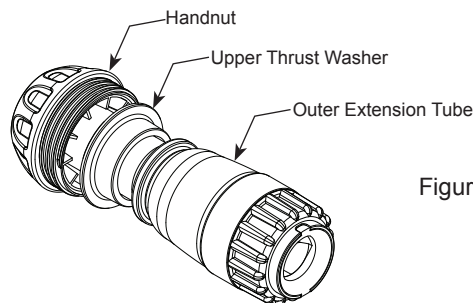

Figure 3
2. Remove the handnut, engine, and upper thrust washer from the body (see Figure 3).